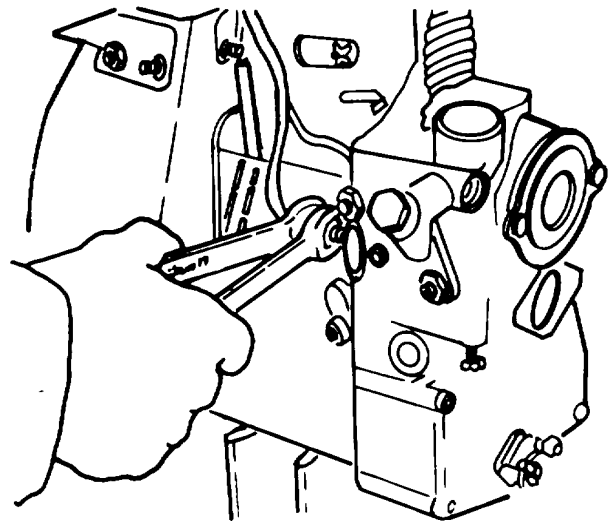

Figure A-5. High Pressure Fuel Line
g. High Pressure Fuel Line. Loosen the high pressure fuel line by holding a 14mm wrench on the delivery valve holder while loosening the fuel line fitting with a 17mm flare nut wrench. (Figure A-5)